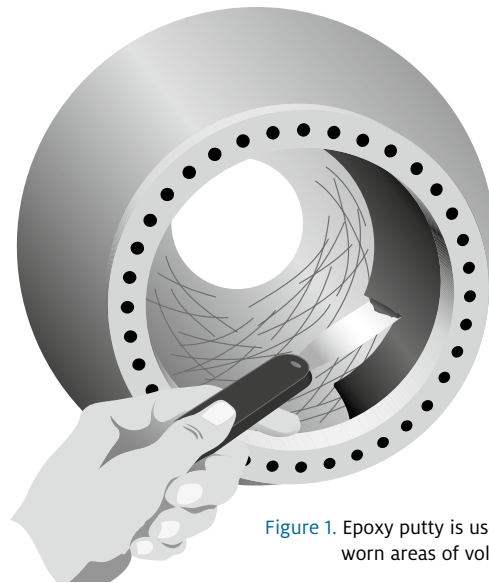

Figure 1. Epoxy putty is used to rebuild worn areas of volute.
Abrasive blast using an angular grit, such as aluminum oxide or silicon carbide. Round abrasive grit should not be used. High velocity water blasting with an abrasive medium is also recommended. (See Figure 1.)
Figure 1. For best results, abrasive blast the application surface.
- 2. Build Up:** Build up the gouges and worn areas on the inside of the body by applying a smooth coating of composite coating. To avoid air entrapment, use a suitably shaped, thin plastic or metal applicator to apply a thin coat of product to all faces of the cavities. (See Figure 1.)
- 1. Surface Preparation:** Prepare the surface as in Figure 1 on page 22. To aid the penetration of the composite coating into cavities, warm the impeller to 120°F to 140°F (50°C to 60°C) before applying product.